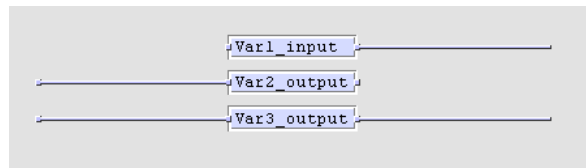

Figure 243: Direction of global variables
- The direction of the variable is determined based on the graphical representation, shown in Figure 243.